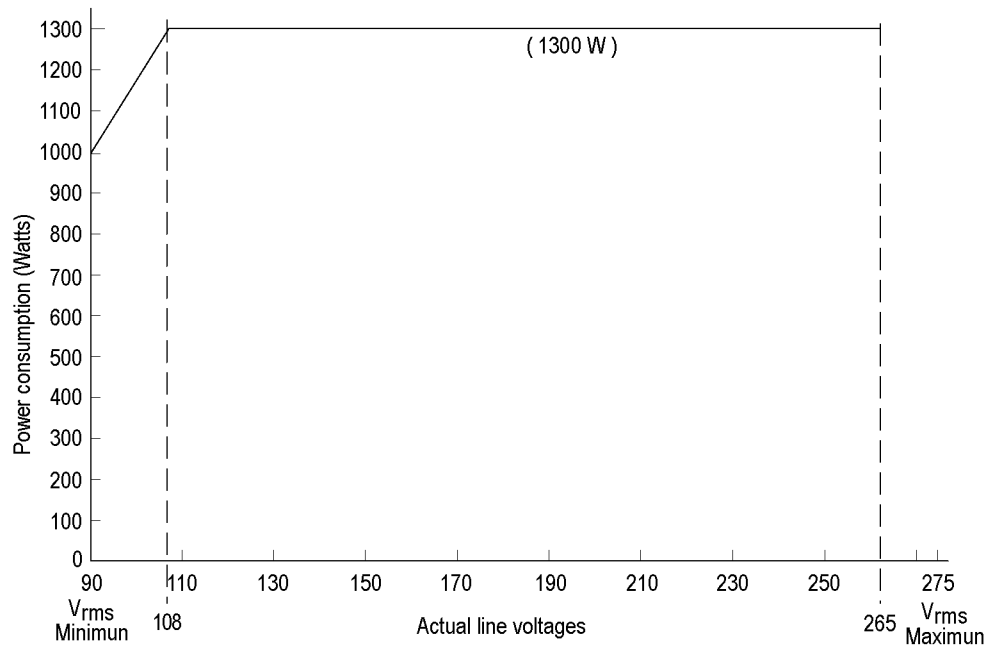

Figure 68: Maximum power allowed to modules at various line voltages for TLA7016 mainframes serial number B020000 and higher
3. Ensure that the total power consumption is less than the limits shown in the table. (See Figure 68 on page 96.)